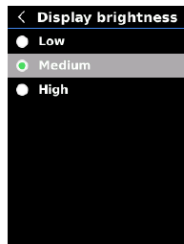

Fig. 19
3. Use the $\wedge$ and $\vee$ buttons to select the desired brightness level between "Low", "Medium" or "High" (Fig. 19).